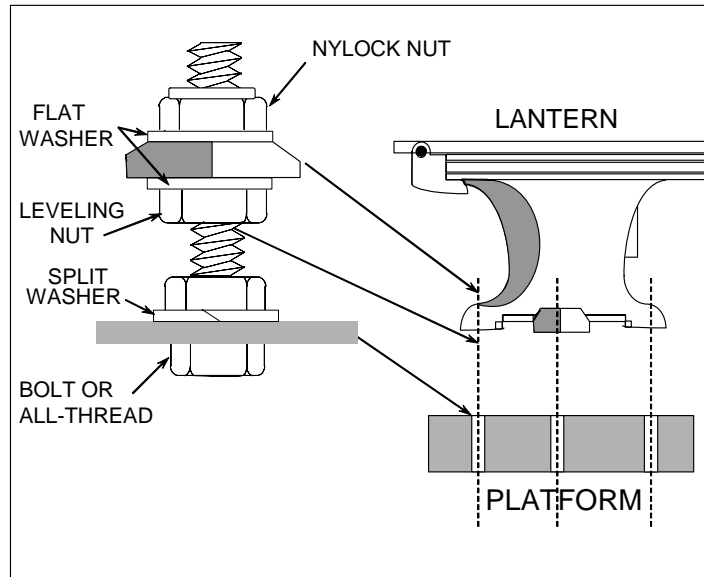

Figure 3-13
- a. Install three ½” threaded rods or bolts on the platform as shown in Figure 3-13 (only three of the four holes in the base are used). Add the leveling nut and flat washer at this time.